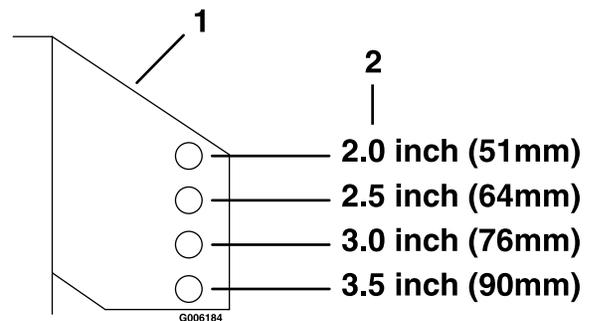

Figure 8
6. Adjust anti-scalp rollers for Normal Operating Conditions. Place rollers in one of the positions shown in Figure 8. Rollers will maintain 3/4 inches (19 mm) clearance to the ground to minimize gouging and roller wear or damage.